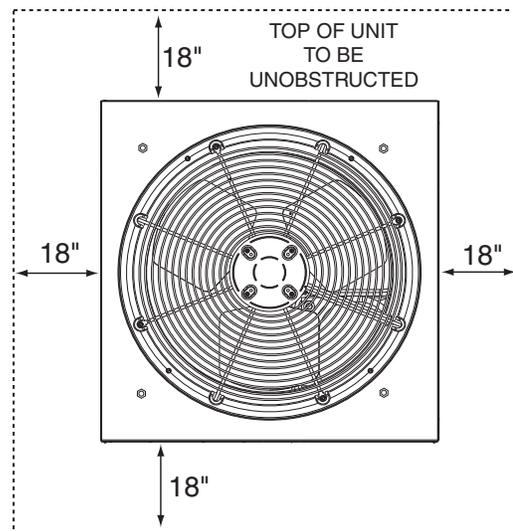

Figure 2. Clearance Requirements
- Sufficient clearance for unobstructed airflow through the outdoor coil must be maintained in order to achieve rated performance. See Figure 2 for minimum clearances to obstructions.
- Clearances must be in accordance with those shown in Figure 2 (page 7).